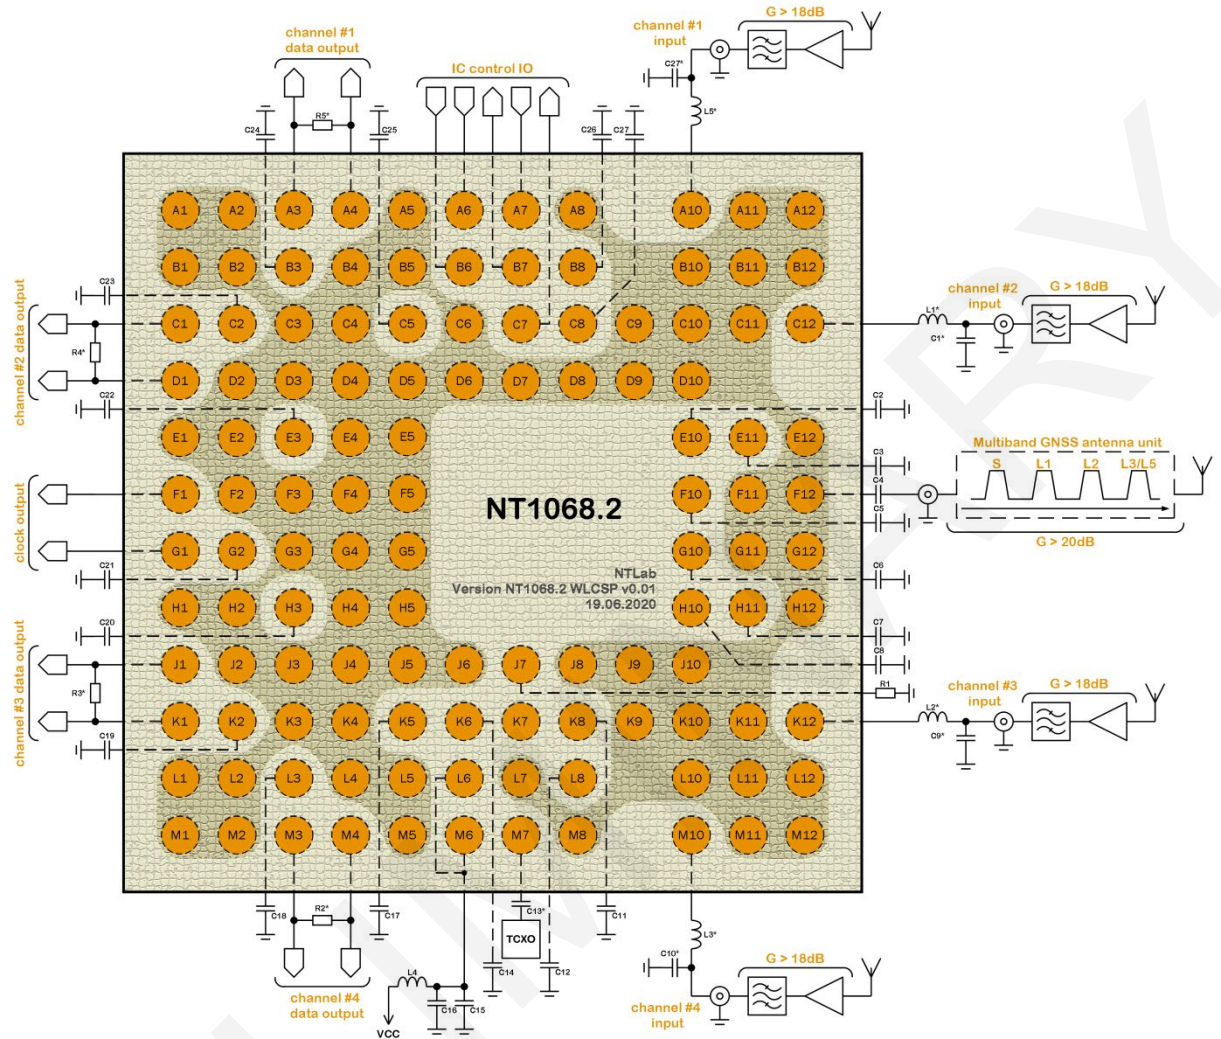

Figure 4.6: NT1068.2 WLCSP (top view) application schematic
**Note:** WLCSP balls that are not specified on Figure 4.6 (shaded area) except K7 must be connected to the ground.